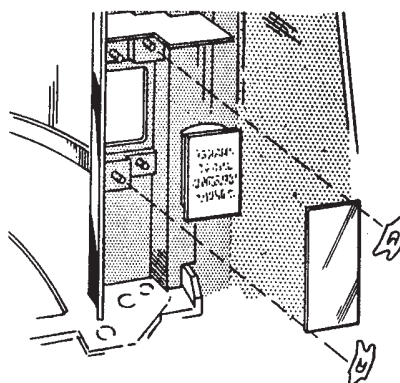

Figure 4.
2. In the 2-credit position, the lower left credit window lights up to indicate "10¢ Credit - Another Coin Required". This credit window, *Part No. 505553* is available from your Seeburg Distributor and is installed as shown in *Figure 4*.